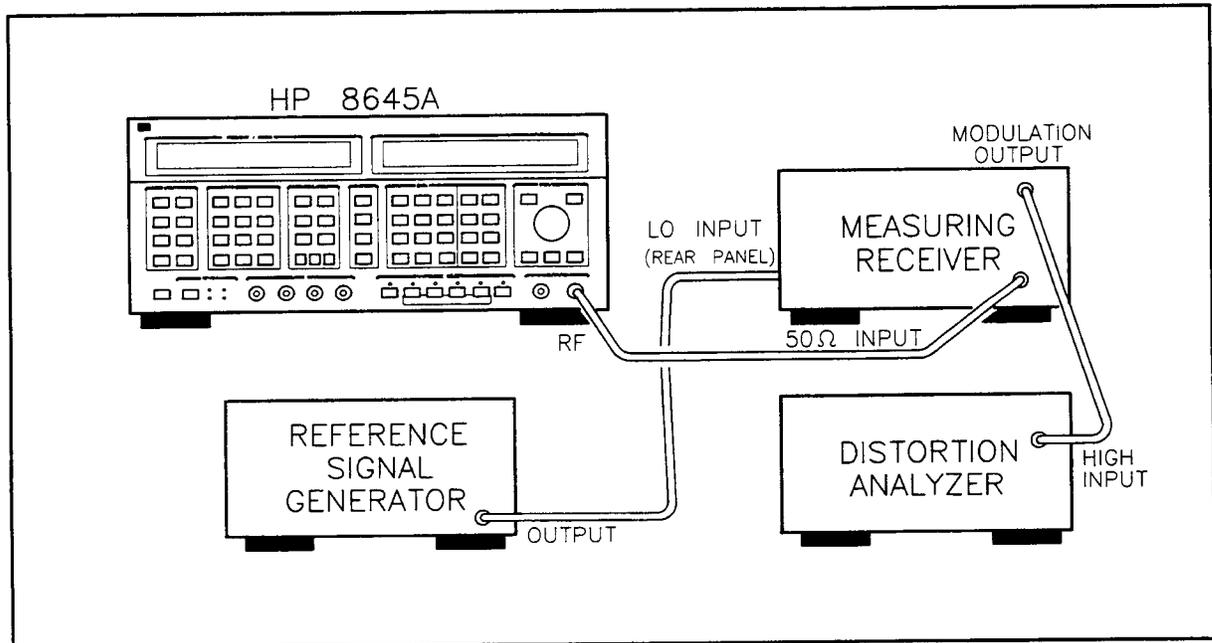

Figure 3-1. FM (Low Deviations and Rates) Test Setup
1. Connect the equipment as shown in figure 3-1. (If the measuring receiver does not have series 030 options (high selectivity), remove the rear-panel coaxial jumper from the local oscillator's input and output. Connect the reference signal generator's output to the measuring receiver's rear-panel local oscillator input.)
12. Connect the distortion analyzer to the modulation output of the measuring receiver. (Refer to figure 3-1.)